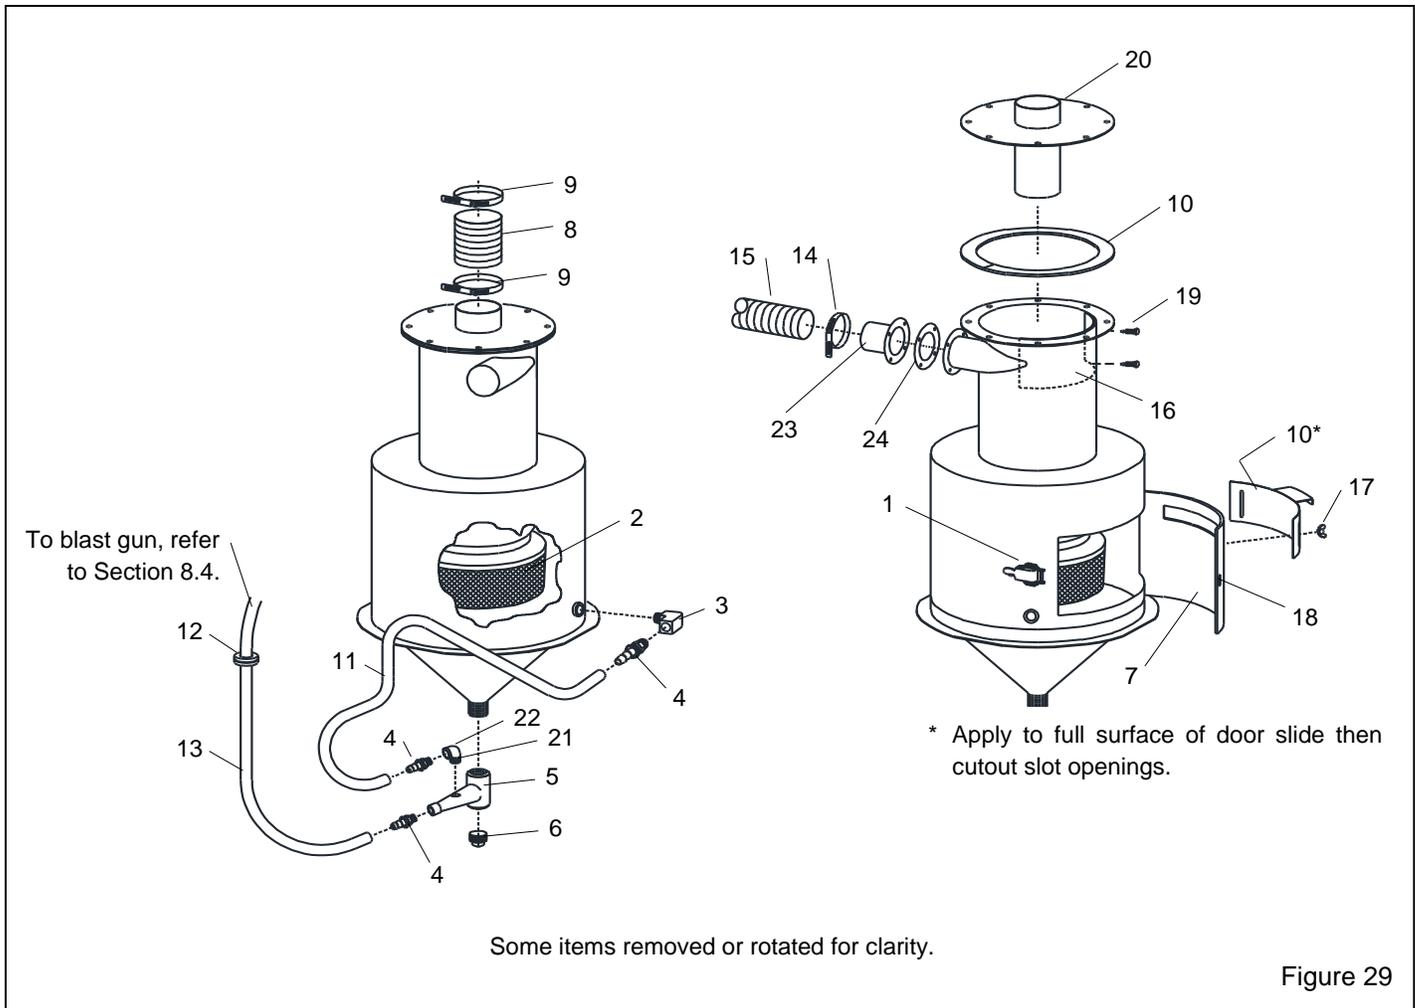

Figure 29
8.8 Reclaimer Assembly – Figure 29